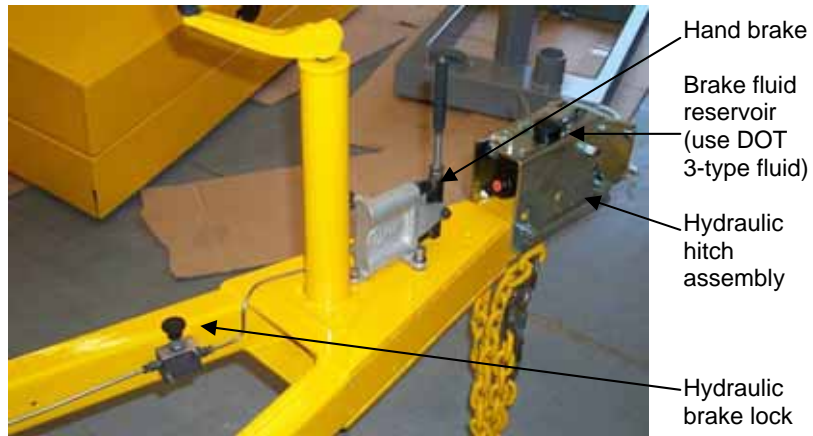

Figure 15. Hydraulic hitch assembly and hand brake.
- Secure all fasteners on the hydraulic hitch assembly. Also check all exposed brake system parts (hydraulic lines, park lock, clamps, and brackets). Check trailer hitch brake fluid and mounting bolts. Figure 15 illustrates parts of the hydraulic brake system.